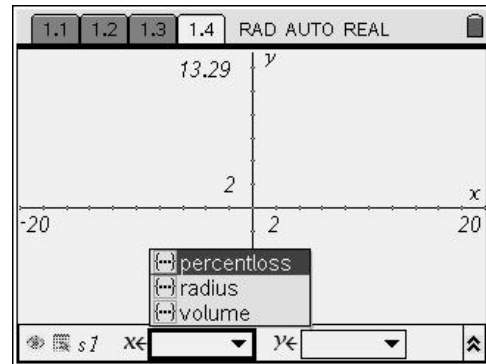

Figure 30
30. Add a graph page by pressing 2ND F5 and selecting 2:Graphs & Geometry. Press ENTER . To graph a scatter plot, press MENU $\langle 3 \rangle$ $\langle 4 \rangle$ for Menu, 3:Graph Type, 4:Scatter Plot. The box for the x variable should be bold. Press ENTER to display the variable choices. (Figure 30) Select “radius” and press ENTER . Arrow to the right to make the box for the y variable bold. Press ENTER to display the choices and select “volume”. Press ENTER . The plot is set up & ready for collected data.